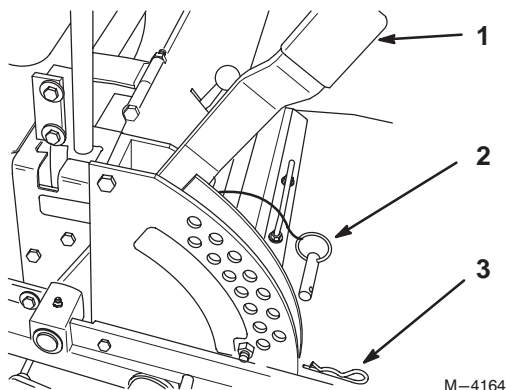

Figure 11
1. Raise the height-of-cut lever to the transport position (also the 5" (127 mm) cutting height position) (Fig. 11).
2. To adjust, remove hairpin cotter and clevis pin from height-of-cut bracket (Fig. 11).
3. Select hole in height-of-cut bracket corresponding to the height-of-cut desired, and insert clevis pin (Fig. 11).
4. Secure clevis pin with hairpin cotter (Fig. 11).